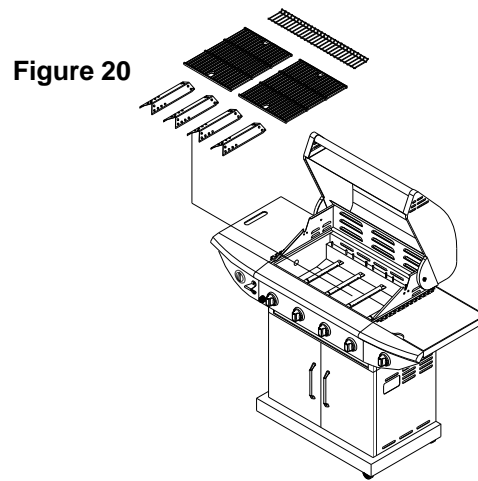

Figure 20
2. Evenly space cooking grids on the ledge above heat diffusers. (Fig.20)
3. Insert legs of warming rack into the holes in the top of grill bowl side panels. (Fig.20)